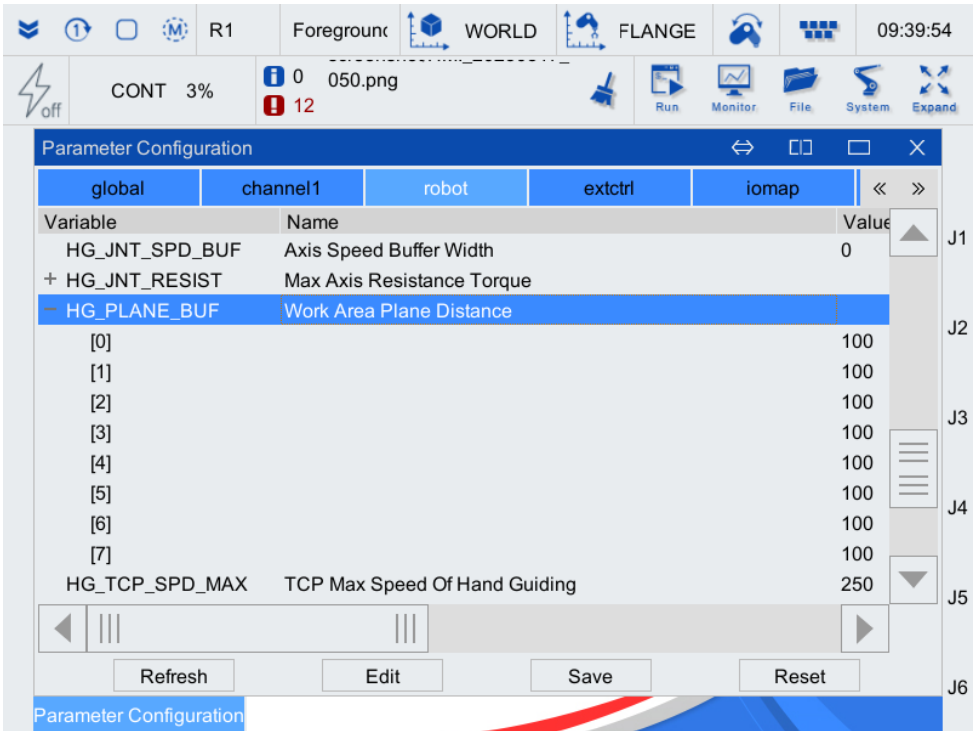

Figure 5-37 Drag teach safe work buffer area option interface
Step3. Enter the parameter configuration interface, select the [robot] tab, click the [+] in front of the [HG_PLANE_BUF] parameter, and click to select the sub items that need to be configured, as shown in Figure 5-37.